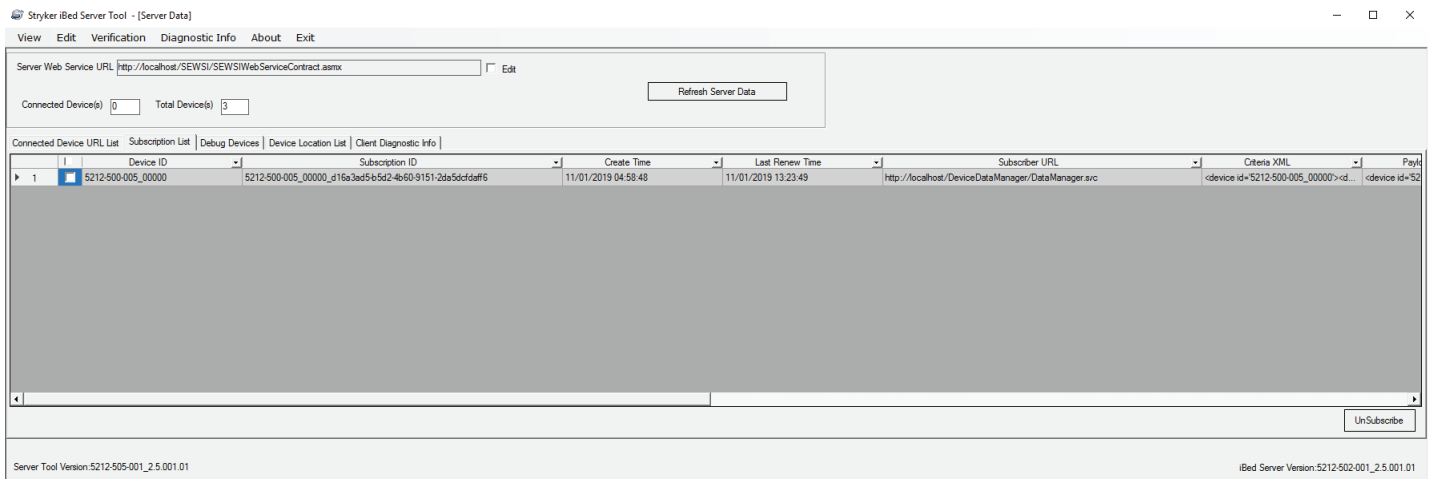

Figure 76 – Subscription List
- Make sure that the **Subscriber URL** column displays the same URL shown in the **Web.config** file of the Device Data Manager (Figure 76 and Figure 77).